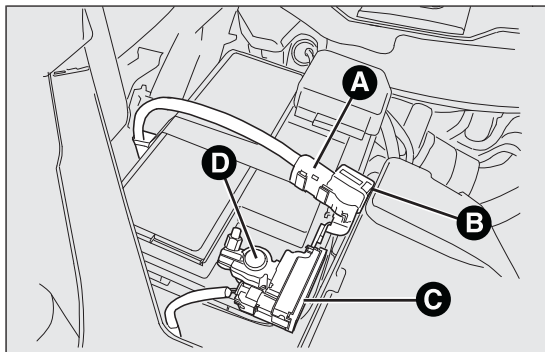

fig. 131
- ☐ disconnect the connector A fig. 131 (pressing the button B) from the sensor C monitoring the battery charge status, on the negative pole D of the battery;
- ☐ after having disconnected the battery charger, reconnect connector A to the sensor C as shown in fig. 131.